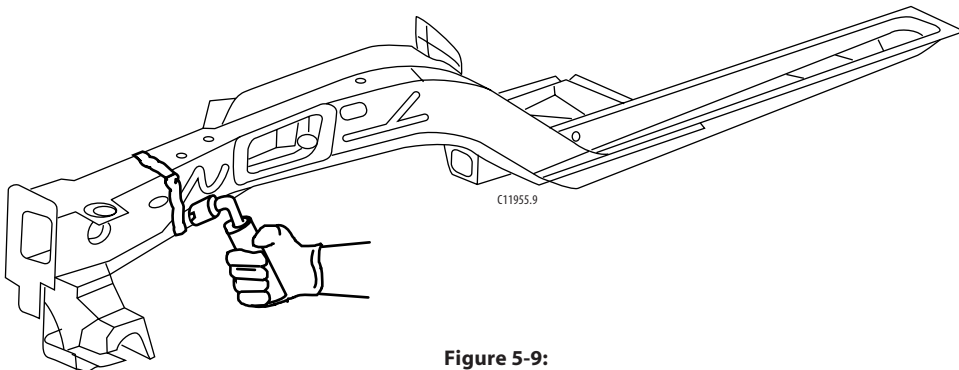

Figure 5-9:
3. Position the modified service part over the stepped tabs of the original rail, allowing 5mm (¼ inch) of overlap. Stitch weld along the entire joint (figure 5-9). When stitch welding, make 25mm (1 inch) welds along the seam with 25mm (1 inch) gaps between. Then go back and complete the stitch weld along the seam.